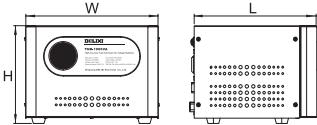

Figure 7 TND-0.5~1.5kVA Product outline dimension
3.1. The appearance of the TND-series is shown in Figures 7, 8, 9 and 10.